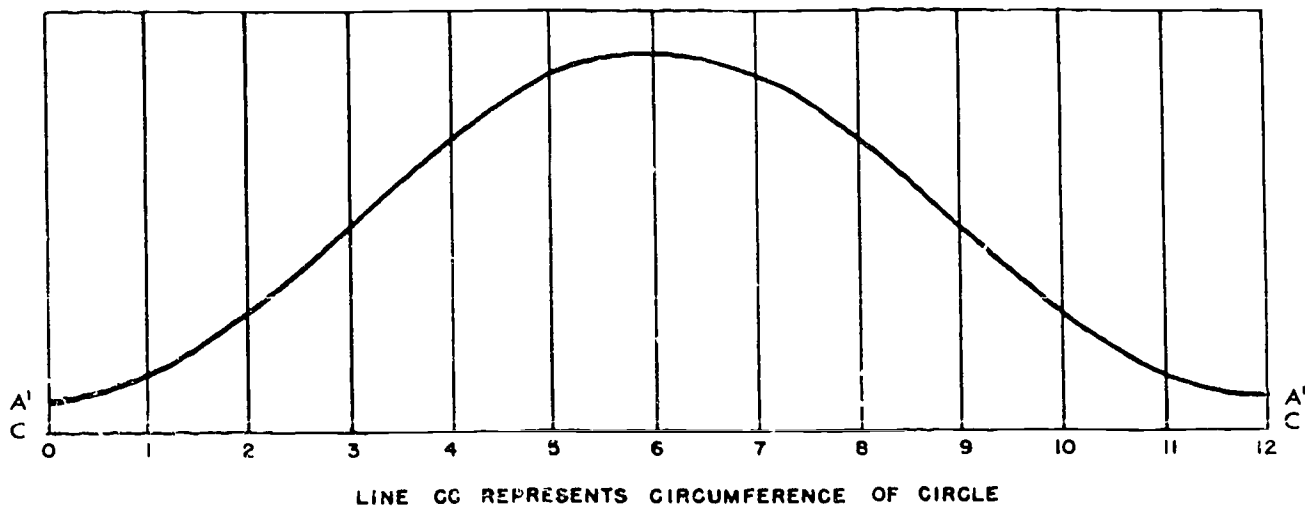
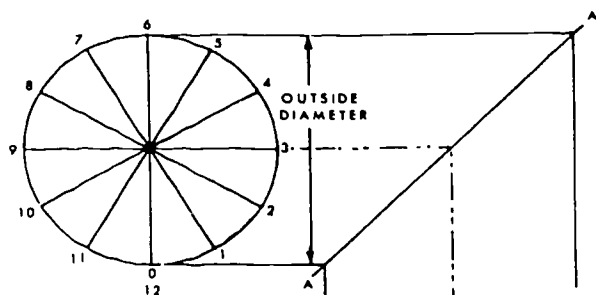
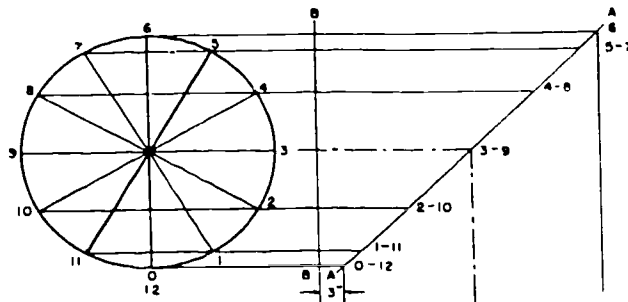

Figure 7-6. Pattern for a 90° bend.
Figure 7-7. Layout plan view.
Figure 7-8. Layout of the true length lines.
**90° Bend.** In preparing to lay out a pattern for a 90° bend, as shown in figure 7-6, first determine the size of the pipe and then proceed to lay out the pipe joint in actual size. Use the outside lines of the pipe to represent the outside diameter, as shown in figure 7-7. Next, inscribe a circle and divide it into 12 equal parts, numbering them beginning with zero. Extend these points over to line AA and number the intersections, as shown in figure 7-8. Draw the line BB at a right angle to the pipe, starting it 3 inches from the corner pipe. This completes the preliminary details before the actual pattern is made.
Now, lay the stretch out, line CC, which represents the circumference of the circle, as shown in figure 7-6. Divide this line into as many equal parts as the circle was divided into, and number them, beginning at the left with zero. Construct perpendiculars at these